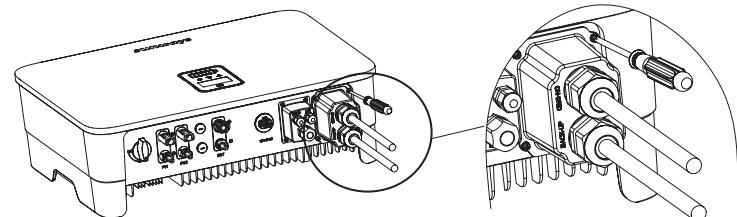

Figure 4-32
- ⑥ Lock the AC connector cover to the inverter with screws, as shown in Figure 4-32: